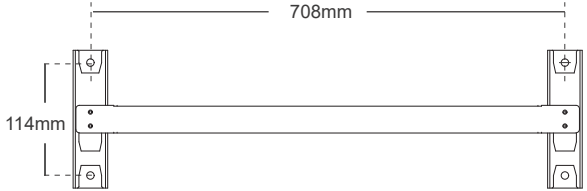

Fig.2.1 Inverter rack
- Select the mounting height of the support and mark the mounting holes according to Figure 2.1 for brick walls, the holes must be drilled for bolts.